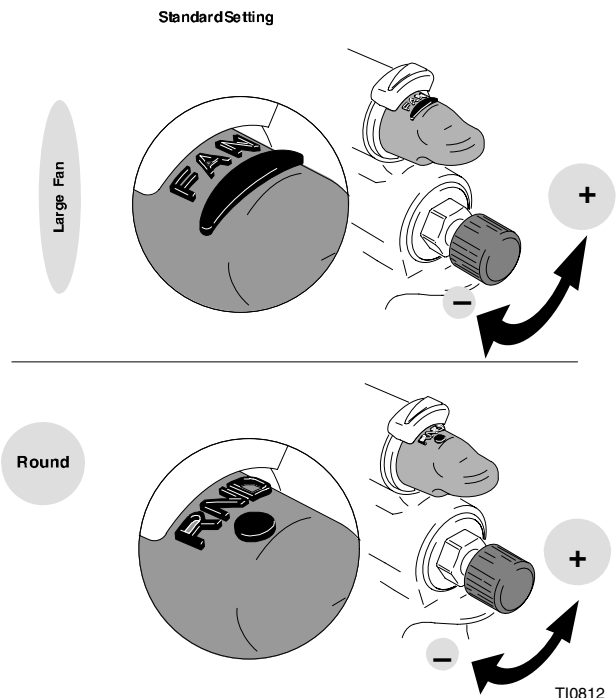

Fig. 8
NOTE: Reducing the fluid flow rate or turning the air knob to RND will reduce the pattern width. Using **air cap 197056** will create a highly productive, wider pattern. See Fig. 8.
- When fluid is first applied, start with fluid valve and maximum air and the knob set to the FAN spray pattern position. Then adjust as needed. See Fig. 8 for pattern size adjustment.